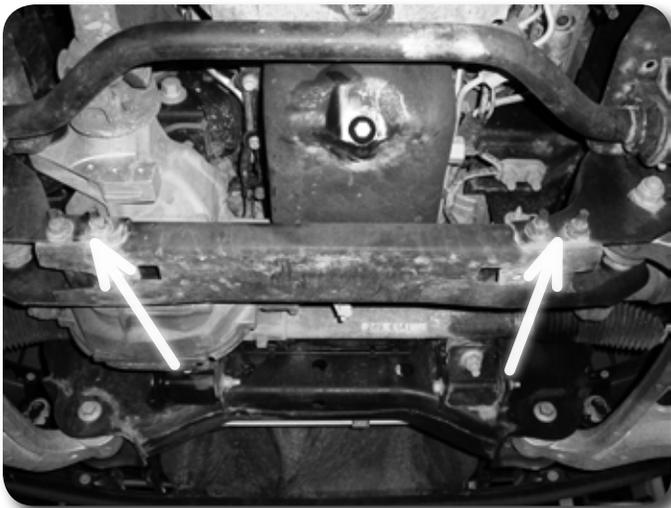

Figure 13
27. Remove the four bolts mounting the factory rear crossmember to the frame rails (Figure 13) and remove the crossmember from the vehicle. Retain hardware and discard the crossmember.